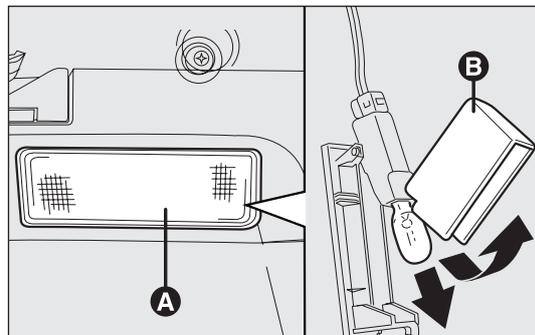

fig. 180
## BOOT LIGHT fig. 180
- remove the light A-fig. 180 by levering on the point shown by the arrow.